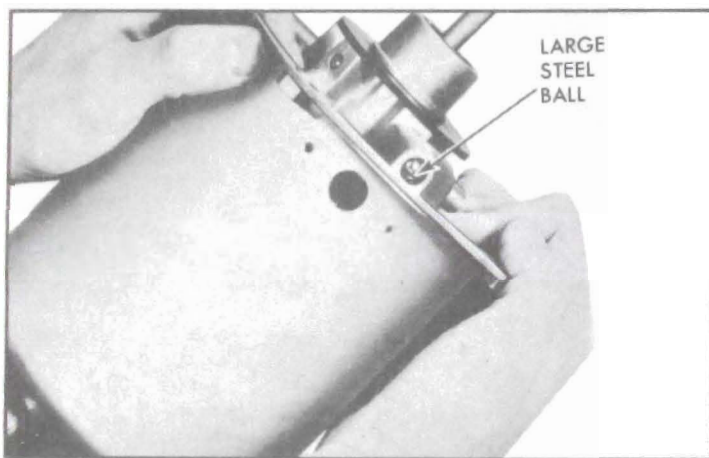

Figure 9-29—Positioning Piston in Housing
22. Wipe a light coat of Dynaflow oil on O.D. of leather cup. Position power piston assembly on spring with large steel ball aligned with vacuum tube hole in housing. See figure 9-29. Push piston assembly into housing past vacuum tube hole. Place gasket against vacuum tube flange, then insert vacuum tube through hole and slide into vacuum hose. Hold piston assembly in until vacuum tube attaching screws are tightened, then release piston slowly against tube.